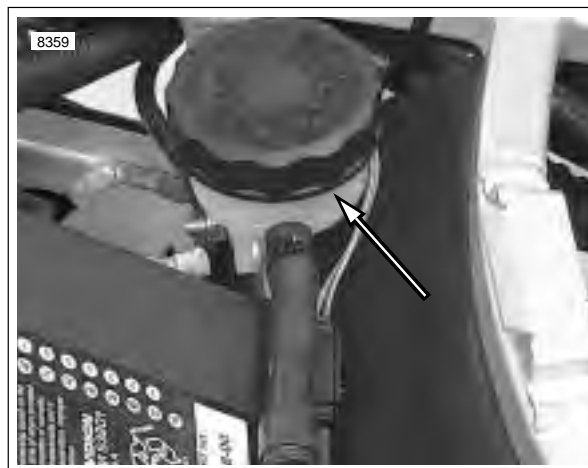

Figure 2-61. Rear Reservoir
4. See Figure 2-61. Verify proper fluid level in reservoir.